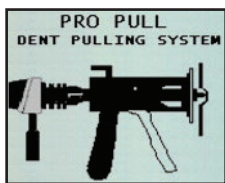

Figure 6.6 Selecting Pro Pull weld mode
1. Push the Single-Sided weld mode button (fig 6.3). Single Sided Weld Programs will display on the screen (fig. 6.5). The i4 software defaults to Single Spot Weld Mode (fig. 6.6).
1. Push the Single-Sided weld mode button (*fig 6.3*). Single Sided Weld Programs will display on the screen (*fig. 6.5*). The i4 software defaults to Single Spot Weld Mode (*fig. 6.6*).
2. Select Pro Pull Welding Program by pressing the Left or Right Navigation Buttons (fig. 4.9). Make sure that Pro Pull Welding graphic appears on the screen (fig. 6.6).